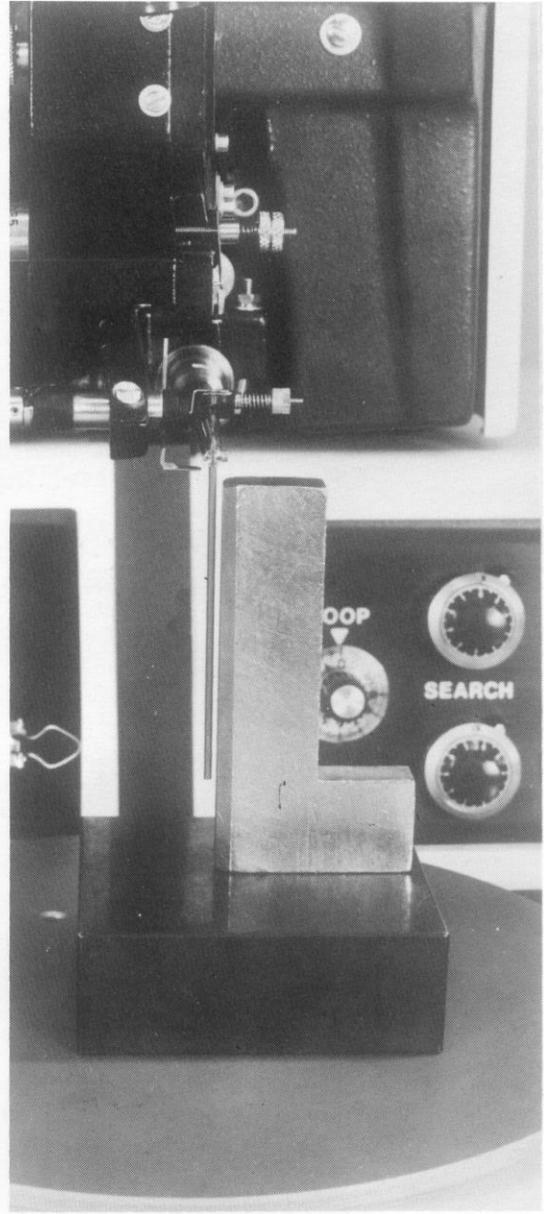

FIG. 6-2 TRANSDUCER ANGULAR ADJ.
6.1.1.6 While holding the transducer at the correct insertion depth, adjust its angular orientation by turning it with the fingertips (Fig 6-2). The verticality pin should line up with a